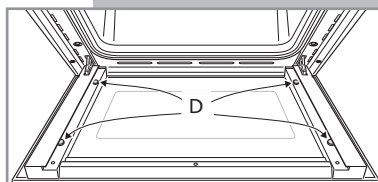

Fig. 27
- Check that the four rubber pads are in place (**D** in Fig. 27).